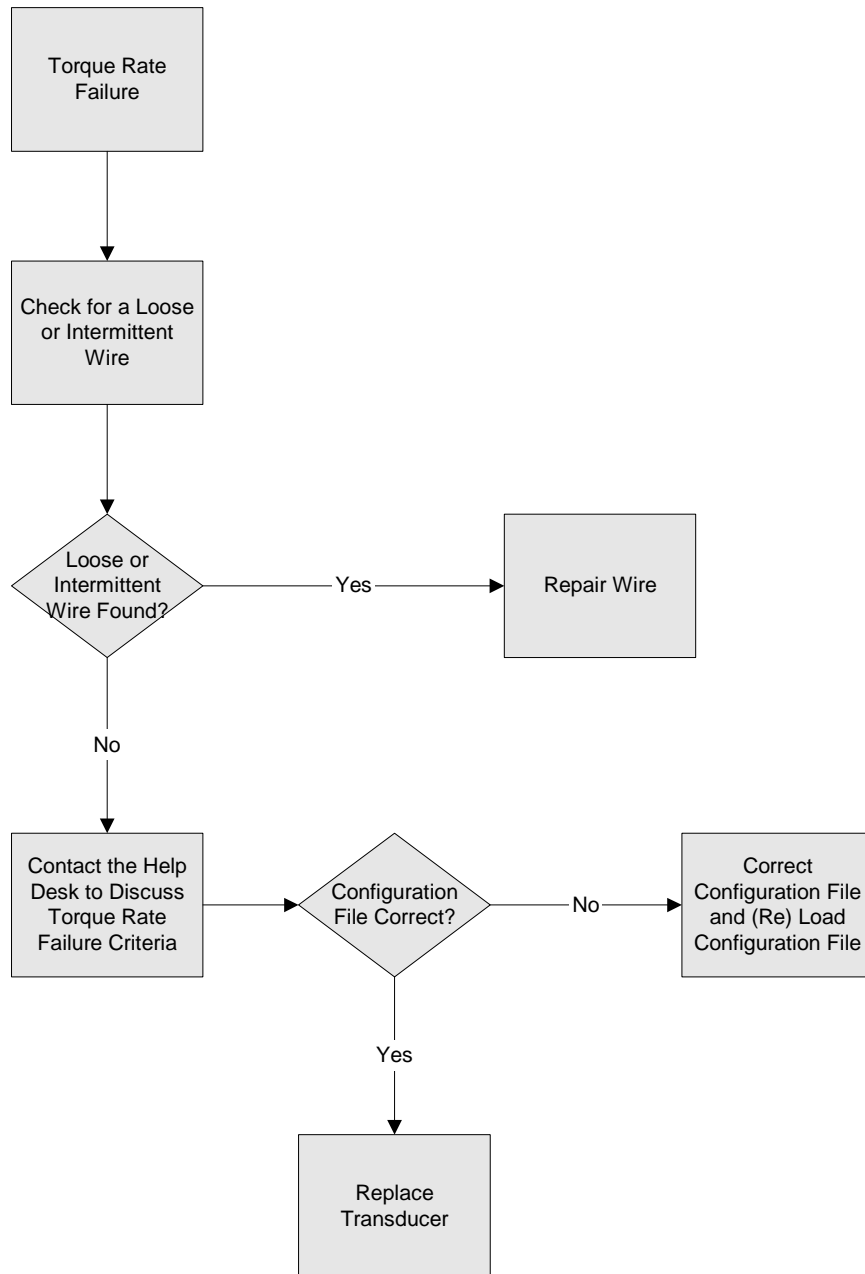

Figure 42: Torque Rate Failure Troubleshooting
- e. Transducer Rate Failure – Refer to Figure 42